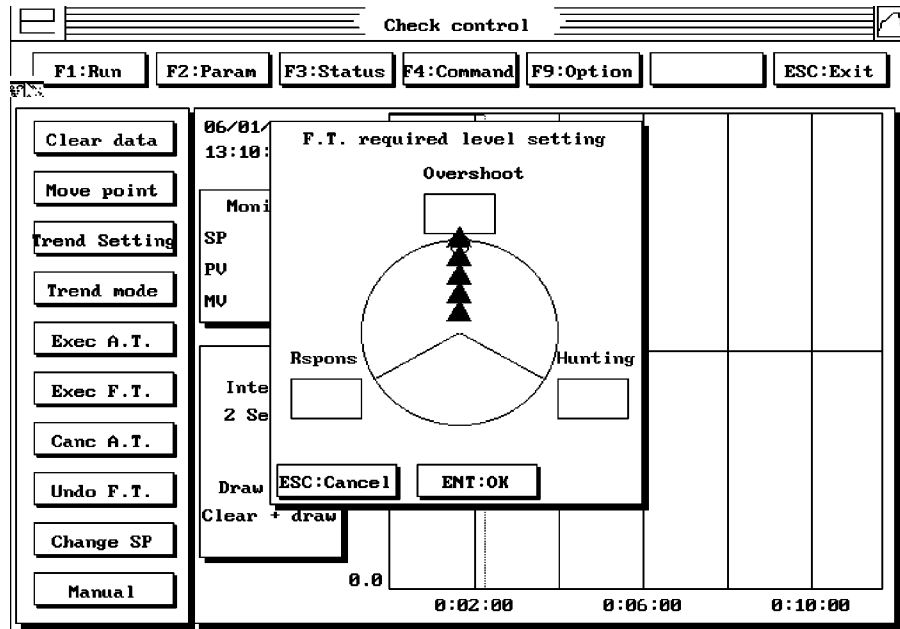

Figure 16
4. Enter the appropriate PID set number and select **ENT: OK**. A new pop-up window will appear Figure 16.